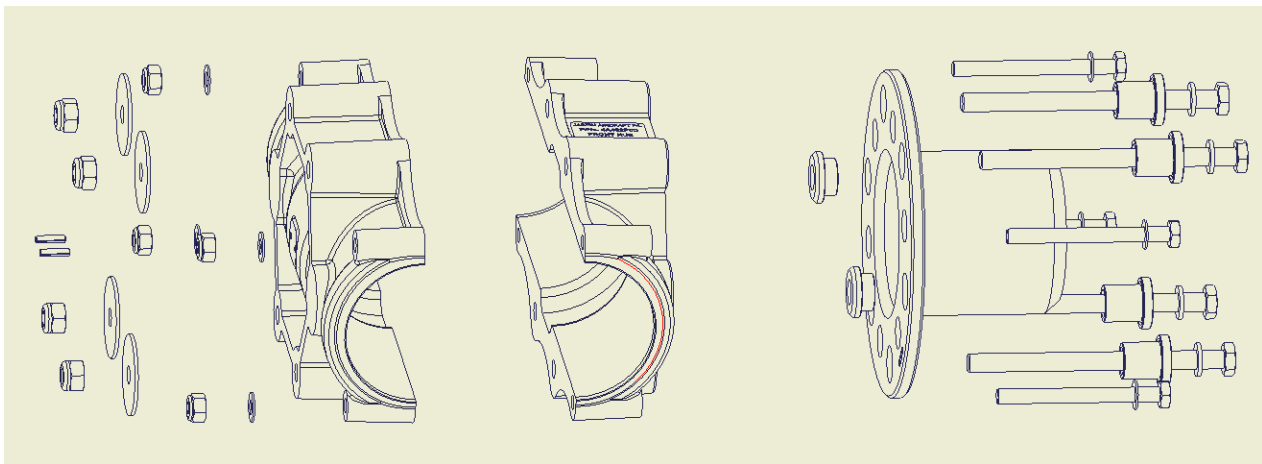

Figure 10 – Propeller Hub Assembly (Spinner and blades not shown)
2. Ensure that Propeller drive bushes – 6 off, are in placed in the Crankshaft Propeller Flange (note that two are special, short parts and face “backwards” compared to the others – see Figure 10). Fit the rear spinner backing plate to the flange. **Make sure it is aligned so it fits over all drive bushes.**